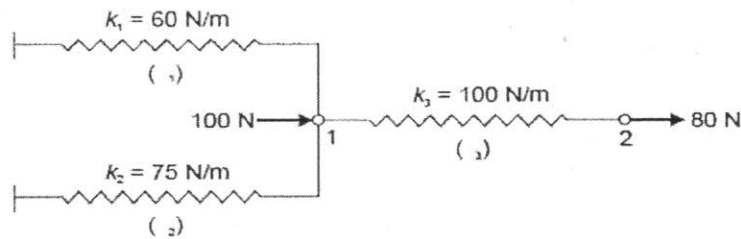

Fig. Q.7
7. Determine the displacements of nodes 1 and 2 in the spring system shown in Fig. Q.7. Use minimum of potential energy principle to assemble equations of equilibrium.